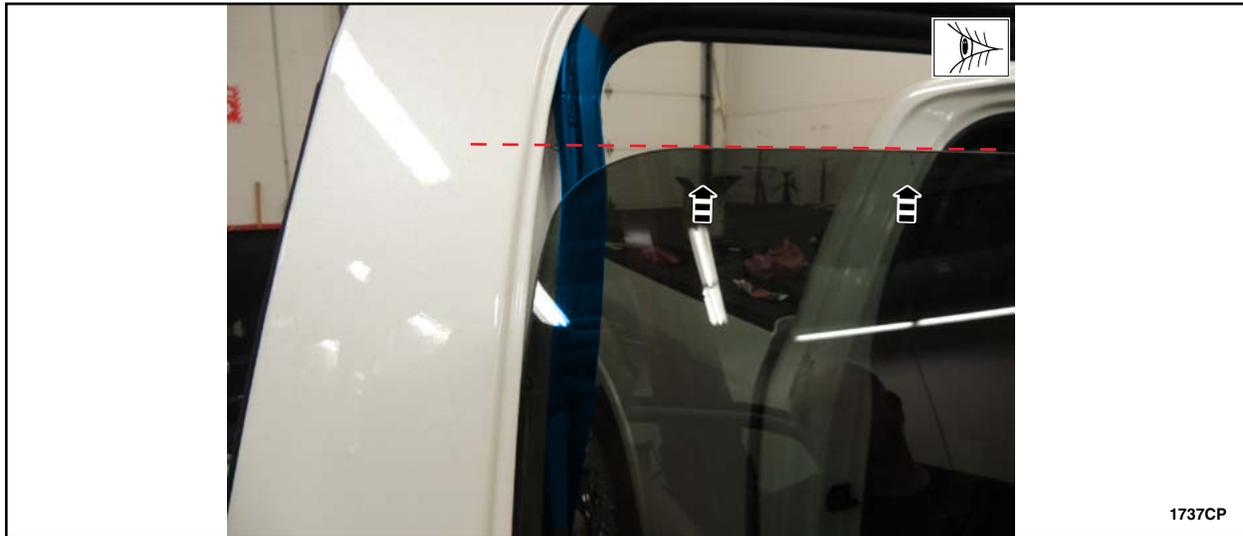

FIGURE 76
19. With the rear door latch side door glass top run still positioned aside raise the rear door window glass three quarters of the way up. See Figure 76.